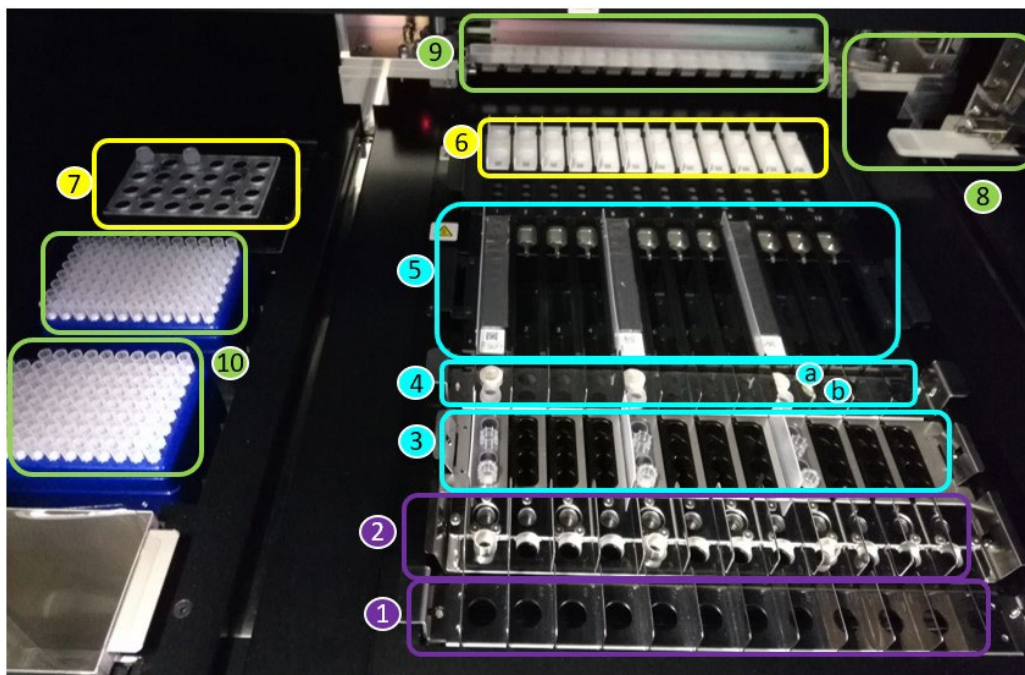

Figure 1: The «**ELiTe InGenius**» loading area
An overview of the «**ELiTe InGenius**» instrument is shown in Figure 1.
Figure 1 shows: Primary tube rack position (1), Extraction tube rack position (2), Tip rack position (3), Elution tube rack position (Dnase I tube + tube adapter (a) and Elution tube (b)) (4), Extraction cartridge rack position (5) and PCR cartridge rack position (6), PCR and Internal Control reagent block (inventory manager) position (7), sample and reagent dispensing (8, 9), the waste box (left-bottom) and tips positions (10).
6. To confirm that sufficient reagents for the number of tests selected are placed in the inventory manager position 7 (cfr. page 11, Figure 1) as indicated on the screen, press the “Next” button.
7. Place sufficient Tips racks in position 10 (cfr. page 11, Figure 1).
9. Place the PCR cassettes indicated in position 6 (cfr. page 11, Figure 1).
11. Place the Extraction cartridge cassette(s) indicated in position 5 (cfr. Page 11, Figure 1). Check visually the extraction cartridges to verify if the beads resuspend correctly; if they do not immediately resuspend, try with vigorous shaking or even with a short vortexing (see “Troubleshooting”)
13. Place the DNase I, into the DNase I tube adapter, indicated in position 4 (cfr. Page 11, Figure 1).
15. Place the amount of elution tubes, indicated in position 4 (cfr. page 11, Figure 1).
17. Place the amount of Tip cassettes indicated in position 3 (cfr. page 11, Figure 1).
19. Place the amount of extraction tubes indicated in position 2 (cfr. page 11, Figure 1).